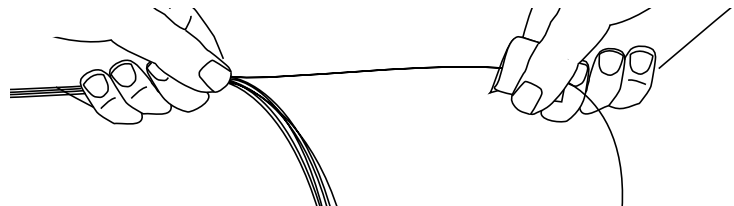

Figure 21
Step 8: Remove the ribbon matrix from the separated fibers by wiping the fibers with a lint-free tissue or cloth soaked in isopropyl alcohol. Wipe the fibers individually until all of the matrix material has been removed (Figure 21).